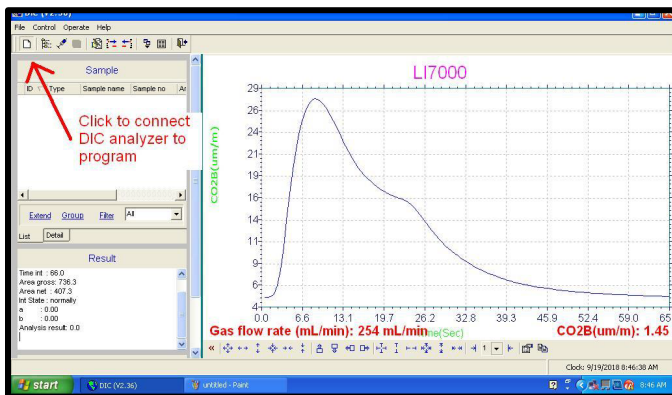

Figure 5. Screenshot depicting how to connect the DIC analyzer to the program.
6. Once the program opens select the small white paper icon at the top left of the program. This will connect/ disconnect the system (Figure 5).